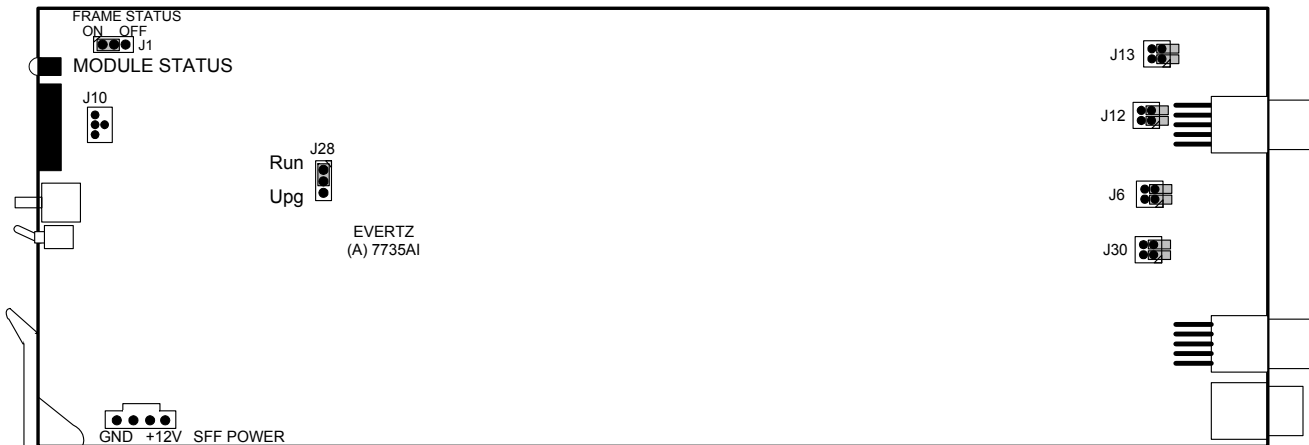

Figure 6-1: Location of Jumpers
The 7720ADC-A4 has 2 LED Status indicators and a 4 digit alphanumeric display on the front card edge to show operational status of the card at a glance. The card edge pushbutton is used to select various displays on the alphanumeric display. The location of the status LEDs is shown in Figure 6-1.
The analog audio input circuitry has two gain control stages before the audio is digitized. Eight Jumpers located near the rear of the 7720ADC-A4 module are used to set a coarse gain level. (See Figure 6-1 for location of jumpers) When the jumpers are not installed, the input range is optimized for when peak audio levels are up to 24dBu. When the jumpers are installed, best performance is achieved when input peak levels are below 18dBu.
1. Take your analog program reference level and add the amount of desired headroom in the digital signal (SMPTE standard is 20dB). If this number is greater than 18dBu, then remove the 8 jumpers near the rear of the 7720ADC-A4 module. If the number is less than 18dBu, then install the 8 jumpers. (see Figure 6-1 for location of jumpers)